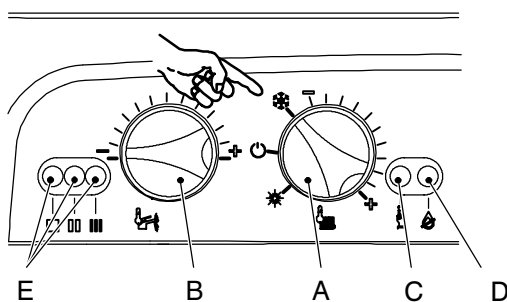

Fig. 33
- 1 Turn the boiler ON positioning the function selector knob A as indicated in Fig. 33.